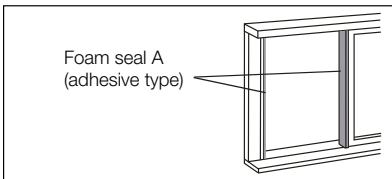

Fig. 18
- Cut the foam seals(adhesive type) to the proper lengths and attach them to the window frame. See Fig.18.